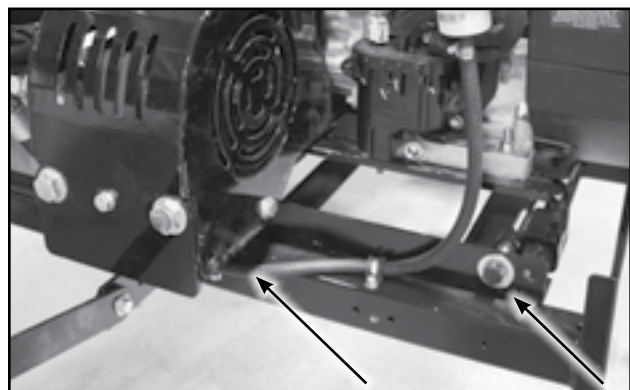

Fig 79 - Engine mount bolts
3. Use bearing mount position bolts to set countershaft position and set belt tension. Calculate the tension, see Figure 79:
9. Use engine mount nuts to set belt tension. Calculate the tension, see Figure 79: